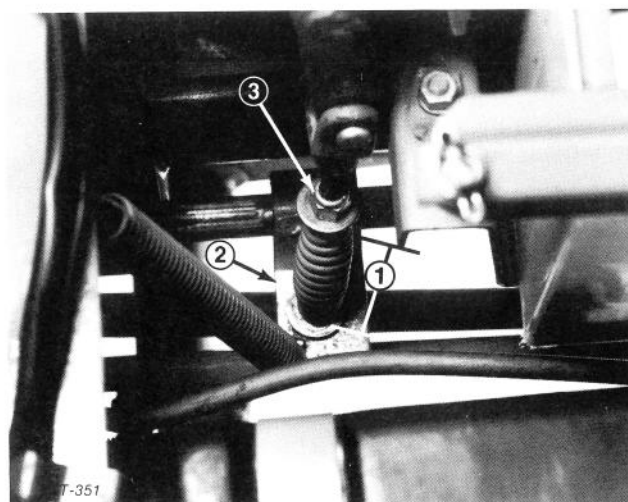

Figure 53
- 3. Measure length of PTO spring between flatwashers (Fig. 53). There should be a spring length of 3-3/16 in. (81 mm).
- 4. To adjust, hold head of adjusting screw with wrench (under PTO actuating arm) and turn locknut (Fig. 53).